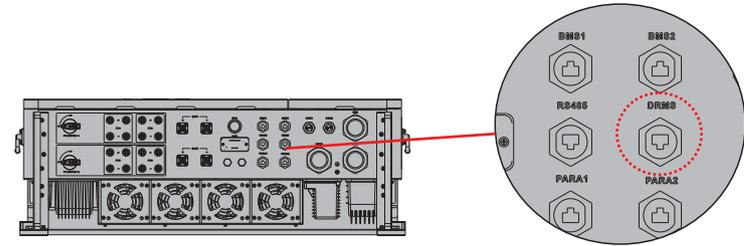

Figure 4.6-5 RJ45 interface
**Step 4.** Connect RJ45 terminal to the right position onto the inverter. See Figure 4.6-5.